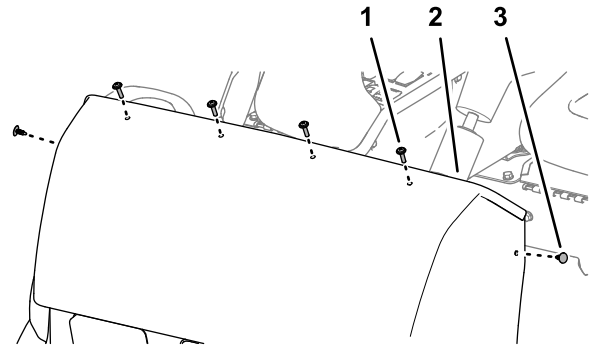

Figure 141
2. Assemble the hood to the dash support with 2 push-in fasteners (Figure 141).
3. Secure the hood to the dash support (Figure 141) with 4 Phillips pan-head screws (1/4 x 1 inch).